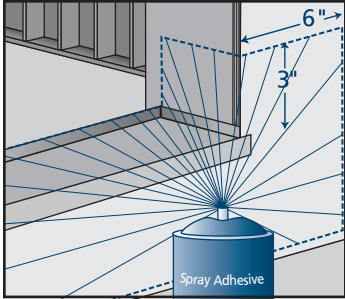

Fig. 6 Apply adhesive spray
1. Coat the sill pan with spray adhesive extending 3" up both side jambs; spray the vertical face of the rise, if step-down, as shown in **Fig. 6**. (Follow manufacturer's instructions for tack time.)